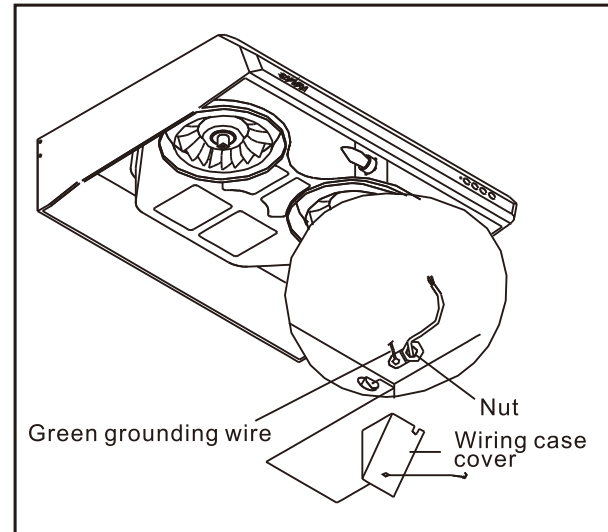
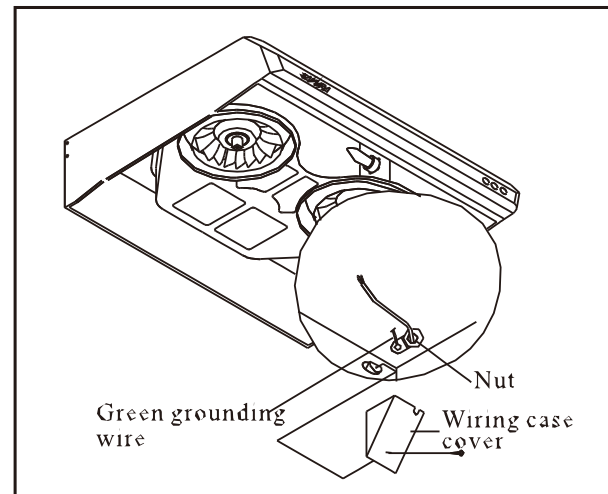

Fig. 14-1 Wire the power supply cord (U3_H)
Fig. 14-2 Wire the power supply cord (U3_R)
11. Connect the leading wires and power supply cord (refer to the circuit diagram on page 10/11 in this manual.),put back cover and screw on. (Fig.14-1/Fig.14-2)